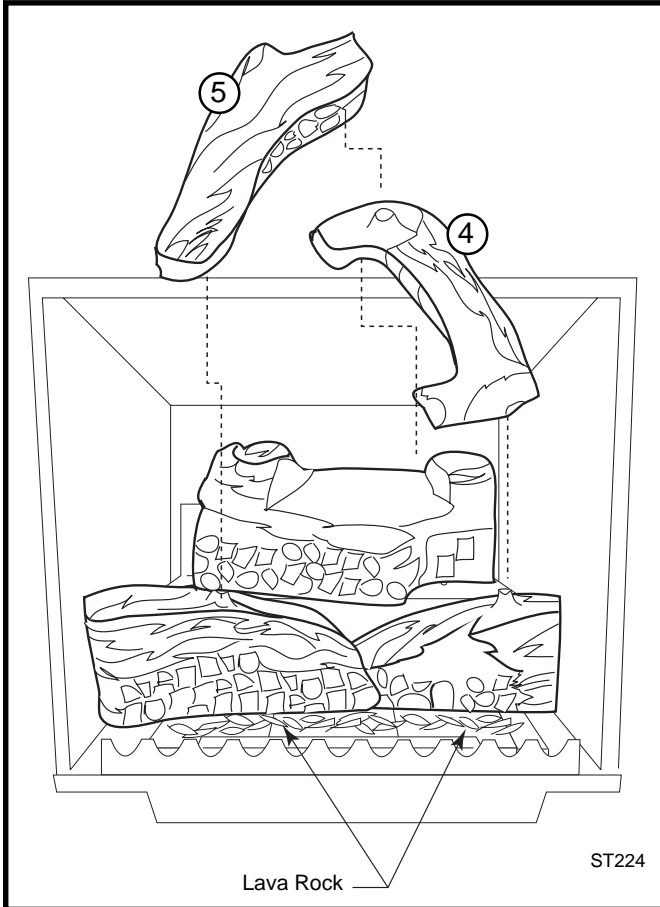

Fig. 15 Install lava rock and upper logs.
4. Loosely sprinkle the lava rocks directly on top of the burner between the decorative grate and the middle logs. Do not place any ember material behind the middle logs. (Fig. 15)
5. Engage the upper log (4) with the right middle log as shown in Figure 15. Swing the top end toward the rear of the firebox and rest on notch on top of rear log. (Note: This log will touch the back of the firebox.) Engage the top log (5) with the upper log and the left middle log. (Fig. 15)